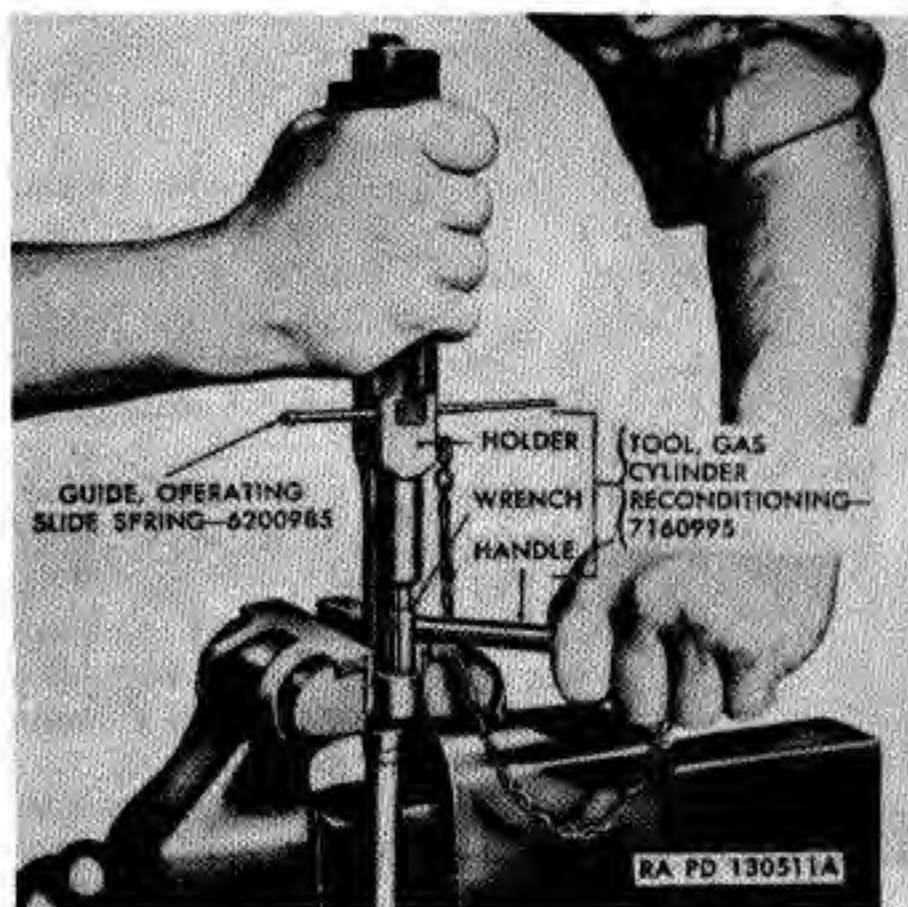

**Figure 76. Removing barrel from receiver.**
a. *Removing Barrel From Receiver (DEPOT MAINTENANCE ONLY).* Do not remove the barrel from the receiver except for replacement of a new barrel. Replace barrel if it is bent or damaged, if the chamber is worn to the extent of effecting excessive headspace or if it does not meet the requirements specified in table III. Completely disassemble all components from barrel and receiver. Place barrel in jaw protected vise. Allow enough of the rear end of the barrel to project from the vise to permit the wrench 7113308 to be positioned over front of receiver (Fig. 76). Place wrench over receiver near barrel and unscrew counterclockwise.